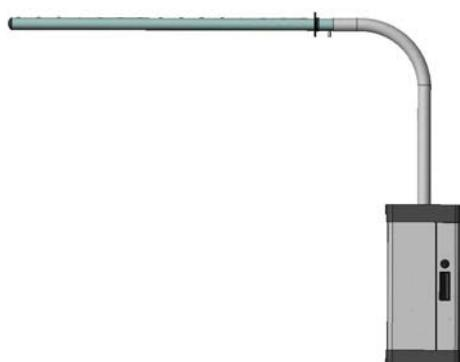

Fig. 43
1. Regardless of the type of application, a certain amount of condense is generated inside the steam distributor. This condense must be disposed of to avoid obstructing the steam flow. If the distributor is positioned higher than the humidifier and the steam tube does not generate siphons, condense recovery may not require installation (e.g. Fig. 43).